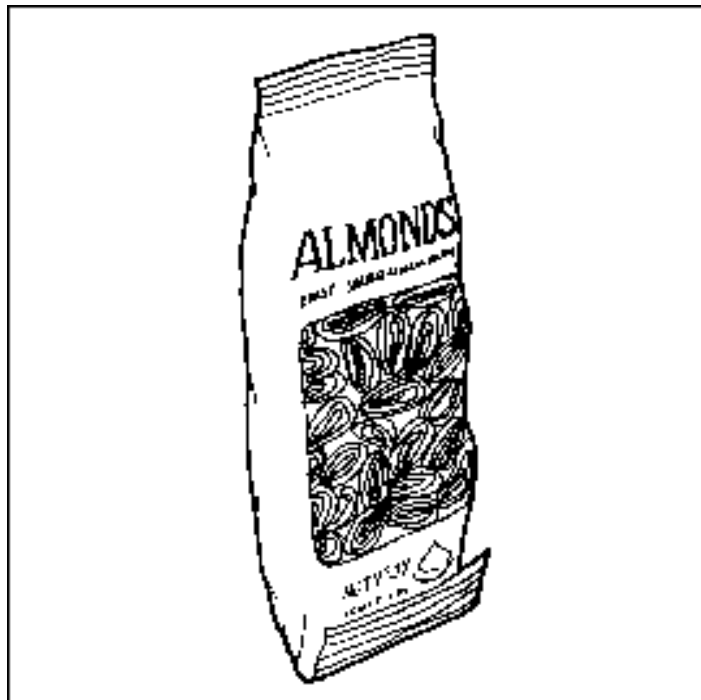

Figure 8. Folded bagged items bottom edge forward and up.
9. **Bagged or Boxed Items** in the 8-selection shelves, if not loaded properly, could be a problem. The sealed edge of the bag may get under the spiral wire causing the product to hang up after it has been vended. It is recommended that the lower edge of these types of product be folded forward and up (Figure 8.) next to the product before